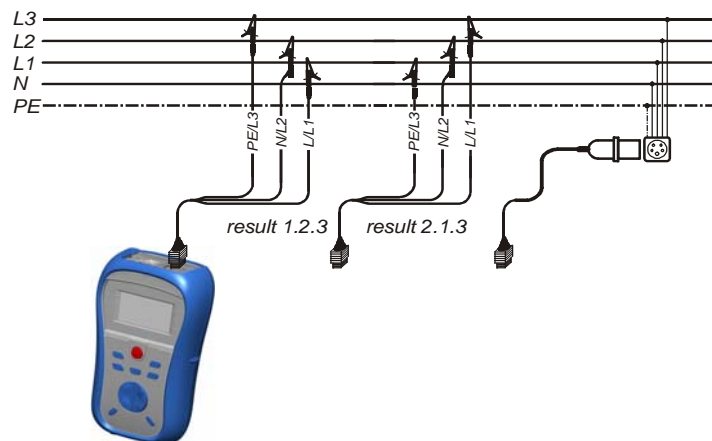

Figure 5.15: Connection of universal test cable and optional adapter in three-phase system
- **Connect** test leads to the item to be tested (see figures 5.15 and 5.16).